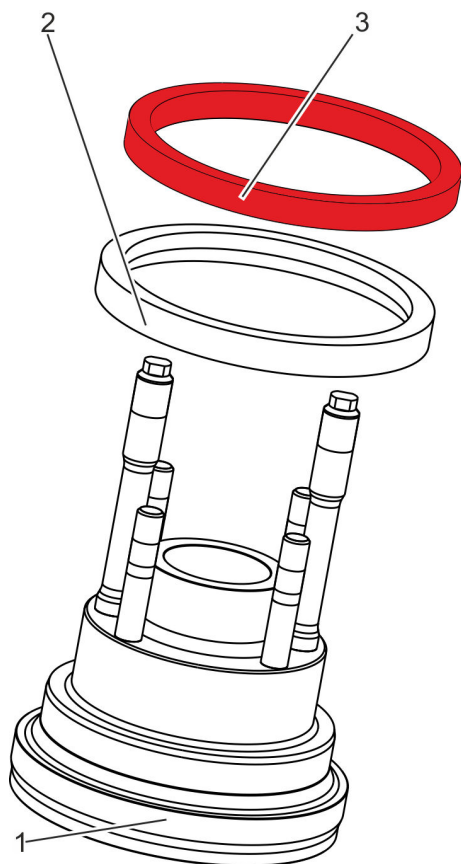

Fig. 30: Removing the support ring and gasket ring
11. Lift the support ring upwards (Fig. 30/3) off of the cover (Fig. 30/1).
12. Lift the gasket ring upwards (Fig. 30/2) off of the cover (Fig. 30/1).